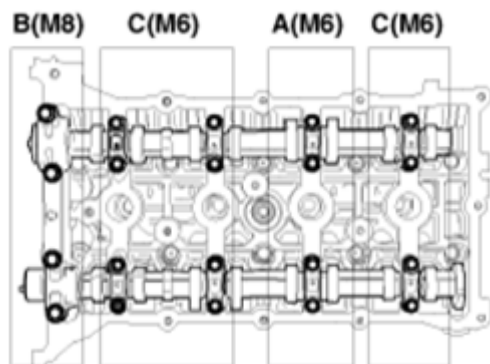

Fig. 21: Camshaft Bearing Caps Tightening Sequence
3. Install camshaft bearing caps (A) in their proper locations. Tightening order: Group A, then Group B, then Group C. Refer to **Fig. 21**